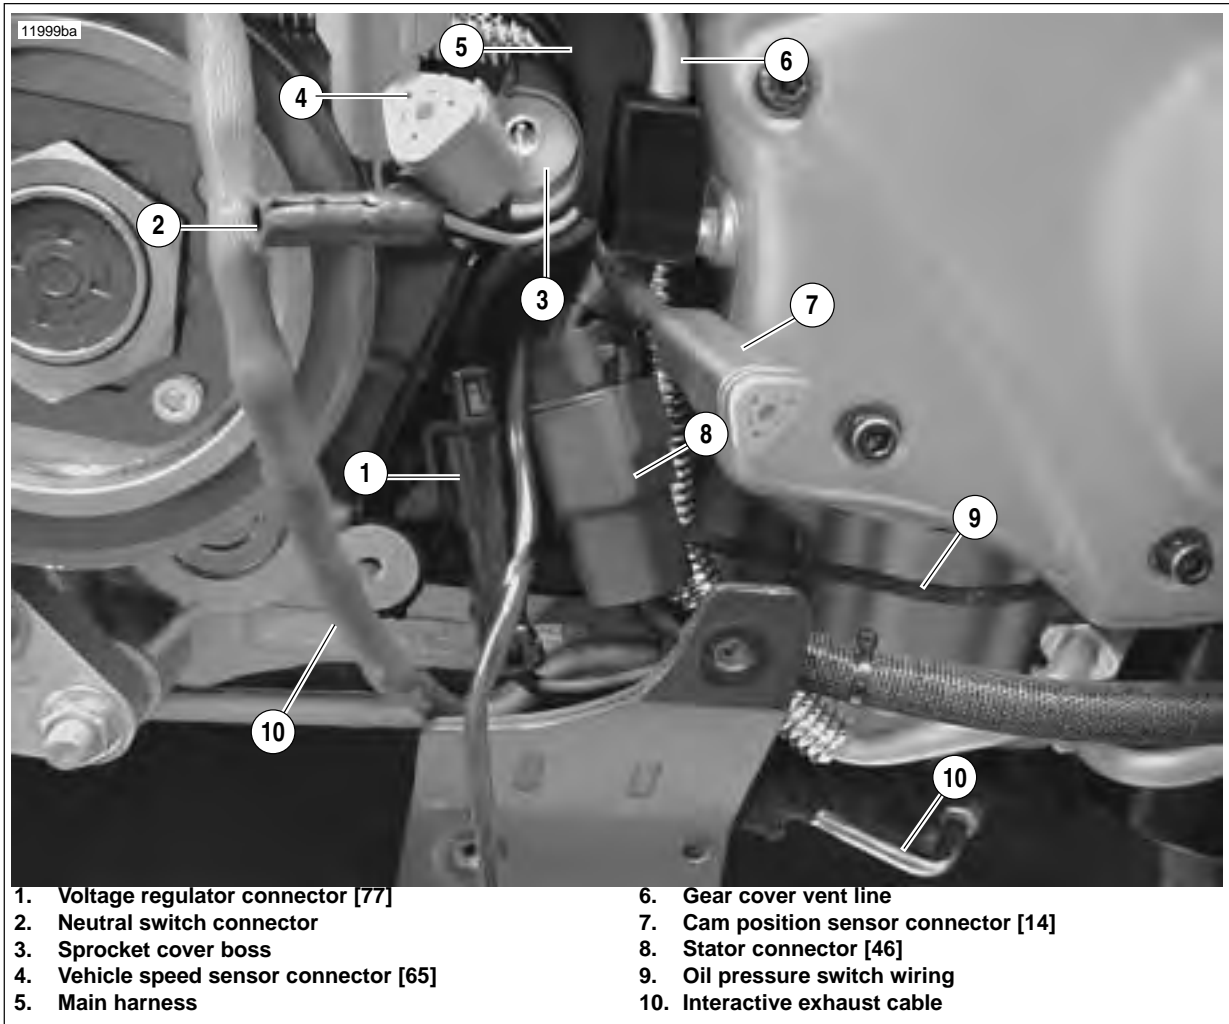

Figure 7-98. Sprocket Cover Wiring and Connections
2. See Figure 7-98. Disconnect appropriate connector(s).
2. See Figure 7-98. Route stator wiring, main harness, vehicle speed sensor wiring, and actuator cable (XB12 models only) behind the vent line fitting (6) and to the right side of the sprocket cover boss (3).
3. See Figure 7-98. Route oil pressure switch wiring (9) from main harness (5), to oil pressure switch located on front of engine and connect to the oil pressure switch.
5. See Figure 7-98. Connect the (4 pin) stator connector (8) and position as shown.
6. Connect the (2-pin) voltage regulator (1).
7. See Figure 7-98. Position the voltage regulator connector (1) as it is shown, with the connector latch to the back and above the bottom sprocket cover boss.